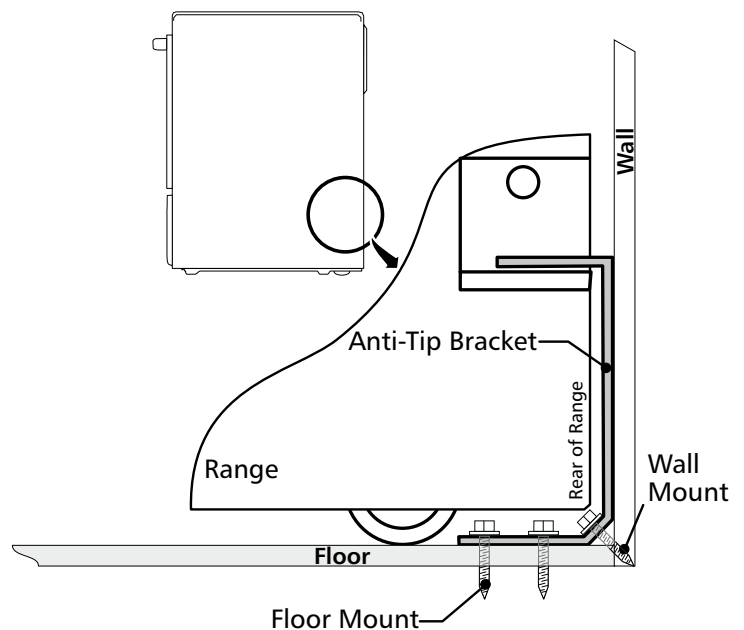

Figure 9
4. Remove template and place bracket on floor. Line up holes in bracket with marks on floor/wall and attach with screws provided. Bracket must be secured to solid floor or wall (Figure 9). If attaching to concrete floor, first drill 3/16" (0,48 cm) dia. pilot holes using masonry drill bit.
6. Slide range into place making sure structure of the range is trapped by the anti-tip bracket (Figure 9). Lower the range by adjusting the levelling legs until the underside of the cooktop is sitting level on the countertop. Refer to "Levelling the Range" section.